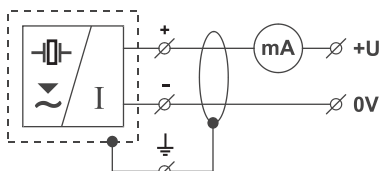

Fig. 19: Wiring diagram of the level meter with current output GRLM-70 _ _ _ I
5. Connect the cable to the screw terminals according to the diagram in Fig. 19 or 21. Firmly tighten the terminals and the cable outlet.